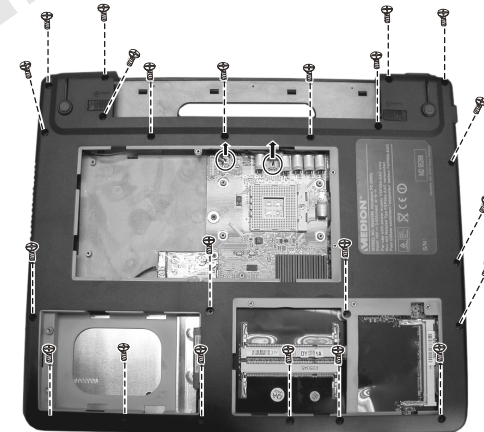

Figure 2-24 Free the housing
3. Disconnect the (L&R) speakers' cables from the system board and remove the twenty-two screws fastening the housing, then free the housing. (Figure 2-24)